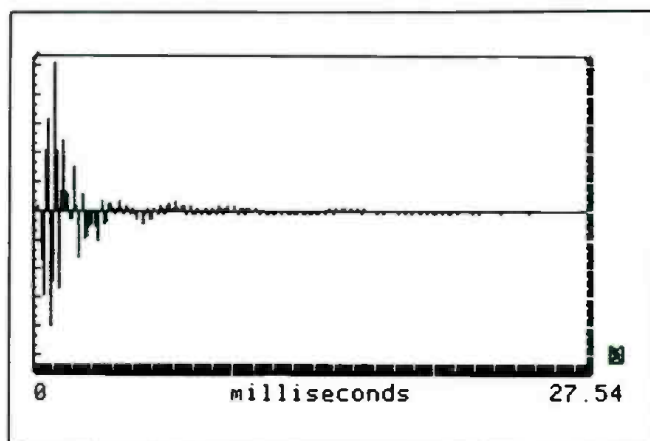

Figure 8. Genrad impulse response.
exhibited here. A simple vibration pick-up was fabricated with a 20cm(2) piece of PVDF film. The transducer was applied to a Bodysonic low-frequency coupler (12), which in turn reproduced an impulse. For comparative purposes, a Genrad type 1560 accelerometer was also used to pick-up the output of the Bodysonic transducer. *Figures 8 through 11* show the respective impulse responses, as well as power spectrum of each vibration pick-up. The advantage of the PVDF film is its ease of attaching to any shape surface, while at the same time not contributing any mass to the structure to which it has been applied. As a last example, a